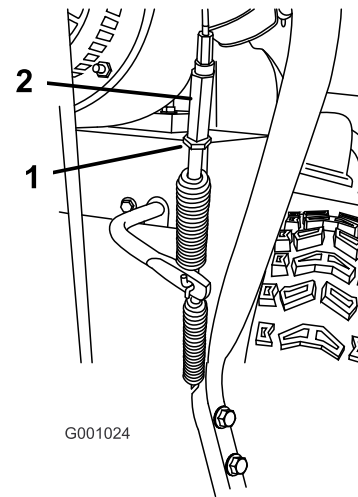

Figure 39
5. Loosen the jam nut (Figure 39).
6. Loosen or tighten the turnbuckle that adjusts the tension on the cable (Figure 39).